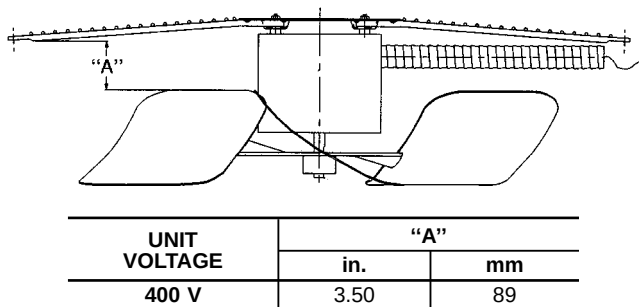

Fig. 30 — Outdoor Fan Adjustment
Outdoor Fan Adjustment (Fig. 30)
3. Adjust fan height as shown in Fig. 30.